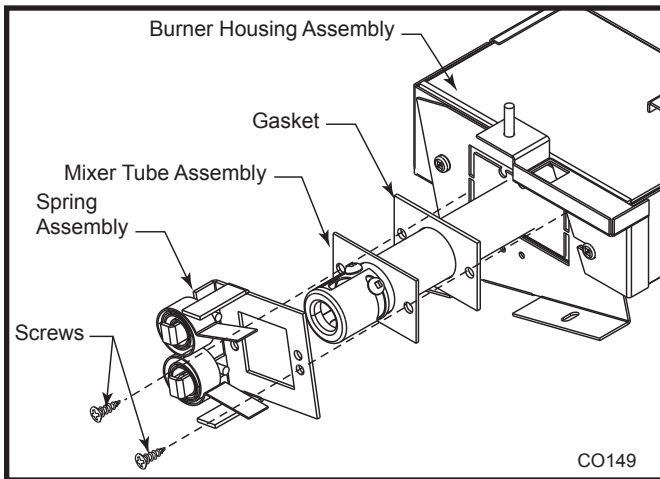

Fig. 51 Install new mixer tube, spring assembly and gasket.
4. Using 2 screws, install new mixer tube and new spring assembly into burner housing assembly taking care to properly align gasket with mixer tube mounting plate and spring assembly mounting plate. (Fig. 51)